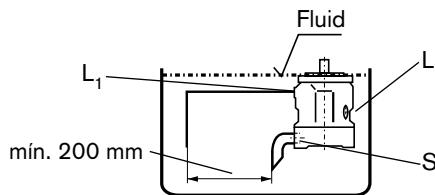

fig. 1
- a) If the min. fluid level is equal to or above the pump mounting face: plug port "L", connect "L₁" and "S" with inlet pipe (recommended); see fig. 1.